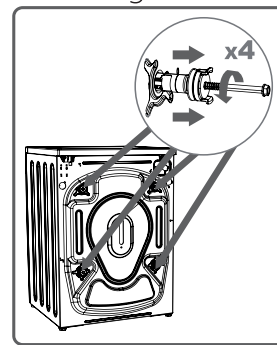

Fig3
**2:**Remove the bolts by pulling them.(Fig 3)